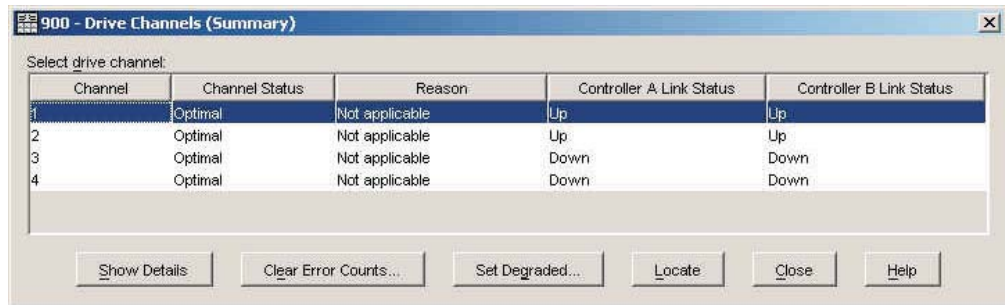

Figure 58. Drive Channels (Summary) window
11. Open the Storage Manager Drive Channels (Summary) window, as shown in Figure 58 (from the Subsystem Management window, click **Advanced > Troubleshooting > Drive Channels**). Clear the error counts; then wait 15 minutes and view the error counts in the upgraded drive loop. If there are none or very few errors, proceed to the next step. Otherwise, wait another 15 minutes and then view the error counts again. If the errors continue to increase, call IBM support for help.